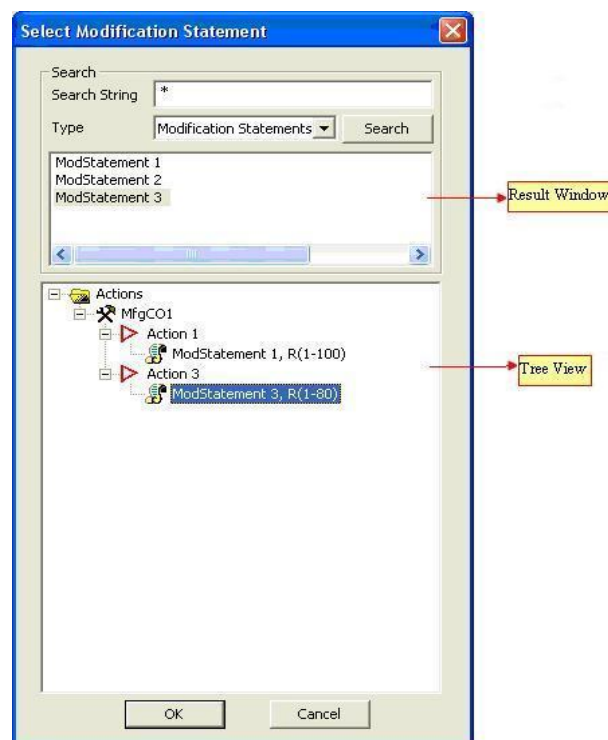

Figure 16: Select Modification Statement
- 7) A **Select Modification Statement** dialog displaying the Manufacturing Change Orders, Actions, and Modstatements in a tree like structure appears. Please refer to the Figure 16.
- The search is performed based on your inputs. Entire database is searched for matching objects, and the results are displayed in the result window. If two or more items of the same name exist in tree, the result lists out all the matching entries. Please refer to the Figure 16.
- Double click the **Actions** folder in the Tree view, the Actions folder expands and corresponding items related to that folder get displayed. Double click the selected action (▶), and the corresponding modification statements (🔧) gets displayed. Select the modification statement and click **OK**. To deselect a Modification Statement, click **Actions** folder and confirm with **OK**. Please refer to the Figure 16.